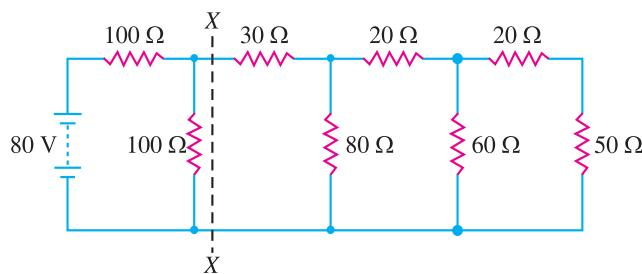
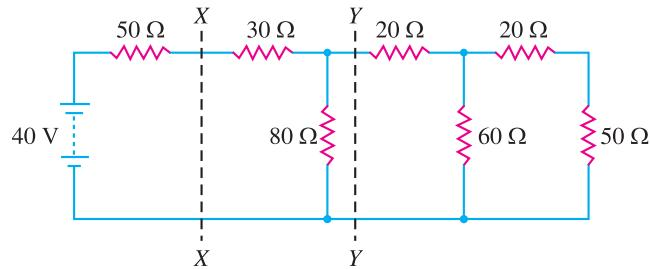

Fig. 1.34
Fig. 1.35
**Example 1.11.** Calculate the current in the  $50 \Omega$  resistor in the network shown in Fig. 1.34.
**Solution.** We shall simplify the circuit shown in Fig. 1.34 by the repeated use of Thevenin's theorem. We first find Thevenin's equivalent circuit to the left of  $^{*}XX$ .
Therefore, we can replace the circuit to the left of  $XX$  in Fig. 1.34 by its Thevenin's equivalent circuit viz.  $E_0 (= 40\text{V})$  in series with  $R_0 (= 50\Omega)$ . The original circuit of Fig. 1.34 then reduces to the one shown in Fig. 1.35.
We shall now find Thevenin's equivalent circuit to left of  $YY$  in Fig. 1.35.
We can again replace the circuit to the left of  $YY$  in Fig. 1.35 by its Thevenin's equivalent circuit. Therefore, the original circuit reduces to that shown in Fig. 1.36.